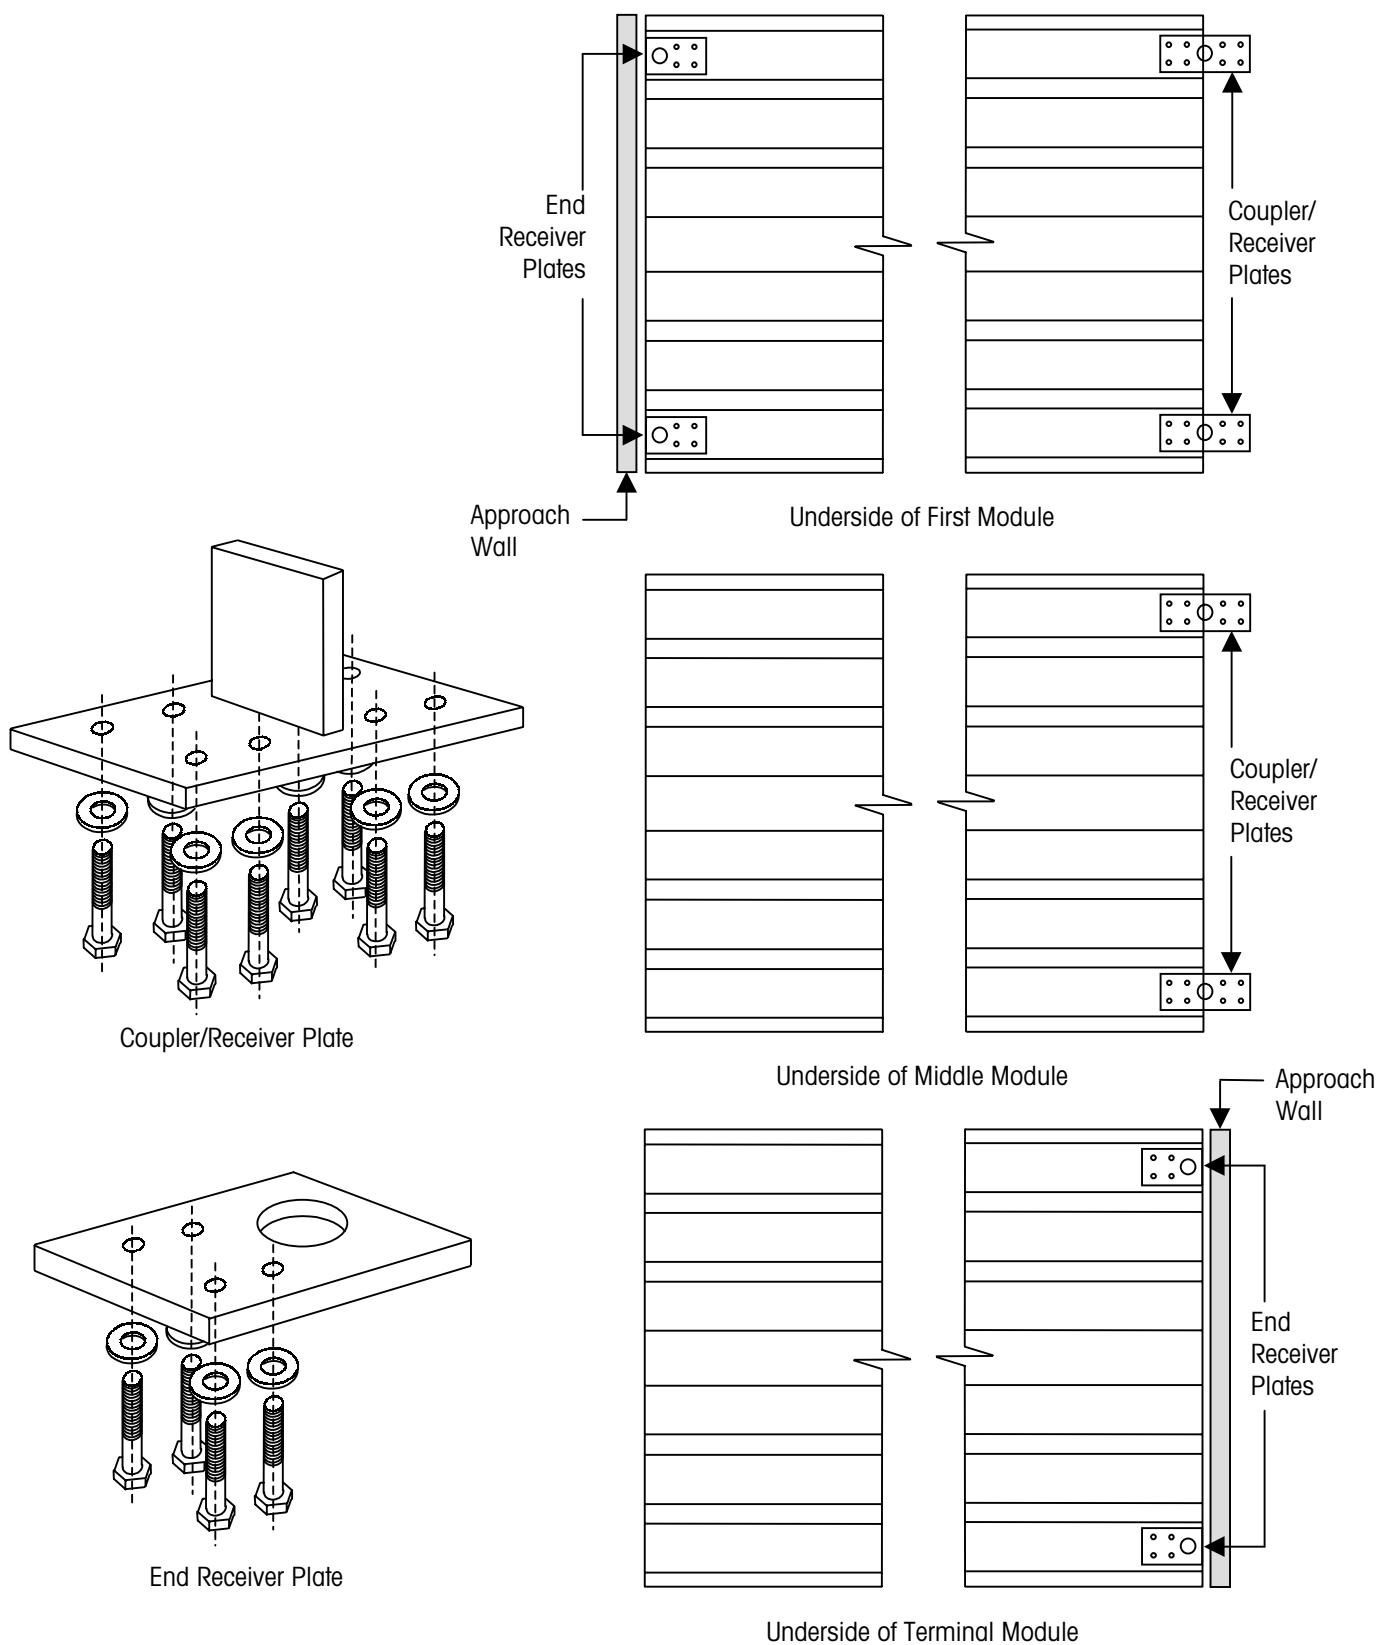

Figure 5-3: Installation of Receiver Plates
- Bolt two end receiver plates and two coupler/receiver plates to the underside of the first module as shown in Figure 5-3 (for a single-module scale, use four end receiver plates). Use 3/4-inch bolts and washers. The bolts should be seated and snug but not tightened at this time.
- Bolt two coupler/receiver plates to the underside of the middle module as shown in Figure 5-3. Use 3/4-inch bolts and washers. The bolts should be seated and snug but not tightened at this time.
- Bolt two end receiver plates to the underside of the module as shown in Figure 5-3. The bolts should be seated and snug but not tightened at this time.